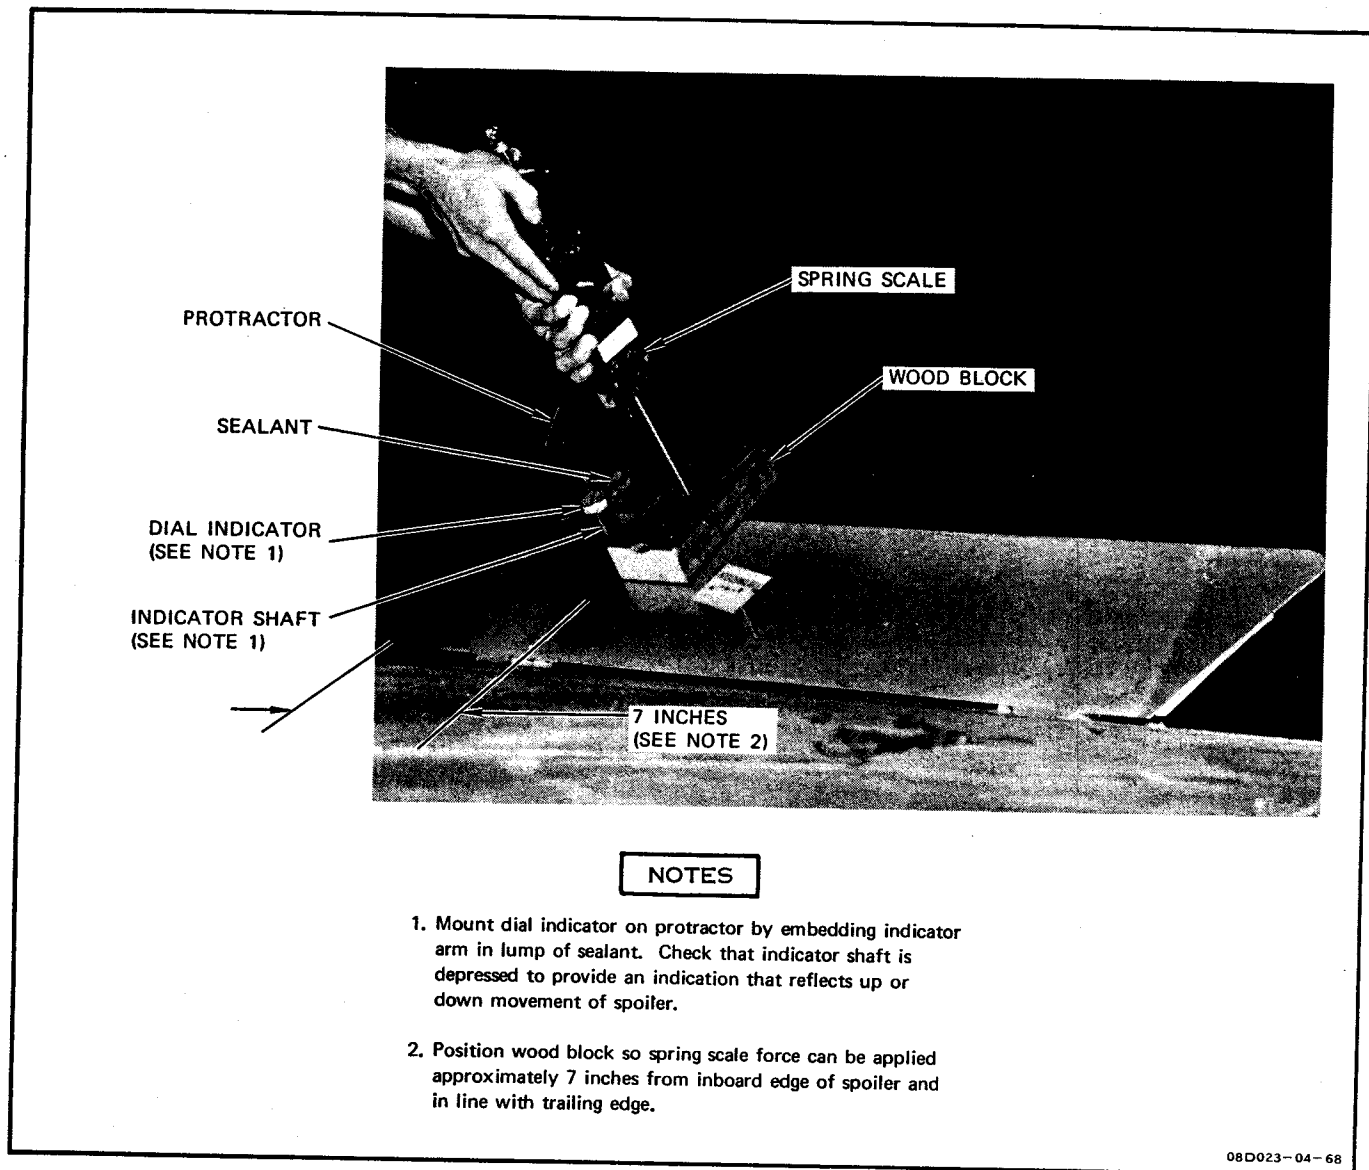

Figure 4-2. Spoiler/Deflector PC Slop Check
**4-21. SPOILER/DEFLECTOR POWER CONTROL SLOP CHECK. (See figure 4-2.)**
d. Mount dial indicator on protractor above spoiler as shown in figure 4-2 and as close as practical to the spoiler trailing edge.